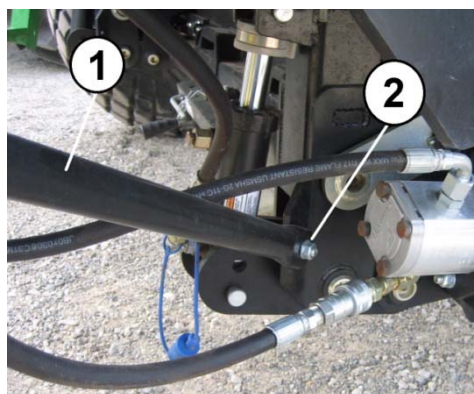

Figure 7. Support Arm Installation
Install RC0470 Support Arm on the RH drop frame using one (1) M12 x 40 bolt, two (2) M12 Washers and one (1) M12 Nut as shown in Figure 7. Do not tighten hardware completely.